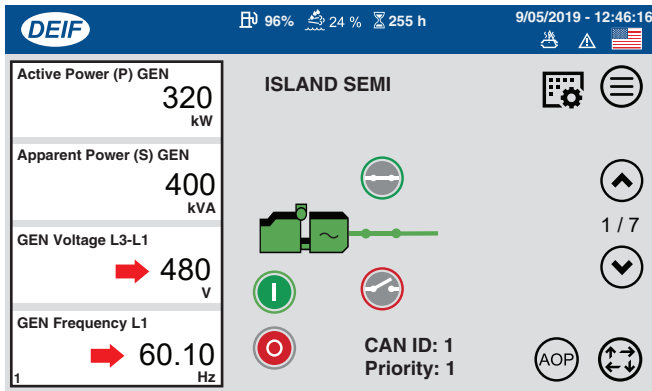

Figure 58. Voltage (V) and Frequency (Hz)
7. On the touch display (Figure 58), verify that the **voltage (V)** and **frequency (Hz)** match the expected output.